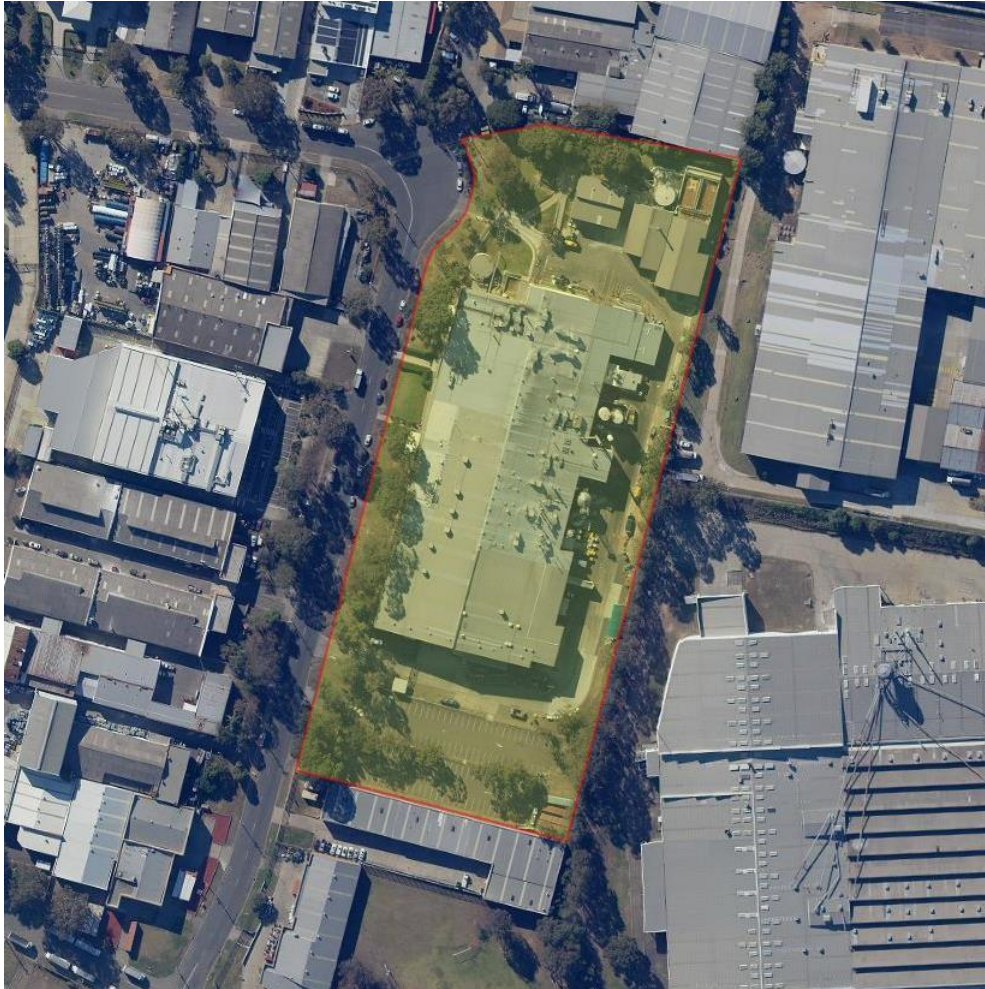

Figure 1. Street Directory Map
- location of the premises to which the licence relates- Figure 1